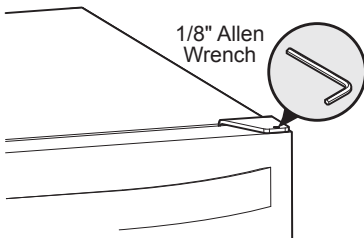

Figure 2
- 2 Remove the top hinge pivot pin with a 1/8" Allen wrench (Figure 2) and lift door off bottom hinge pin. Be careful not to lose door closers (Figure 3).